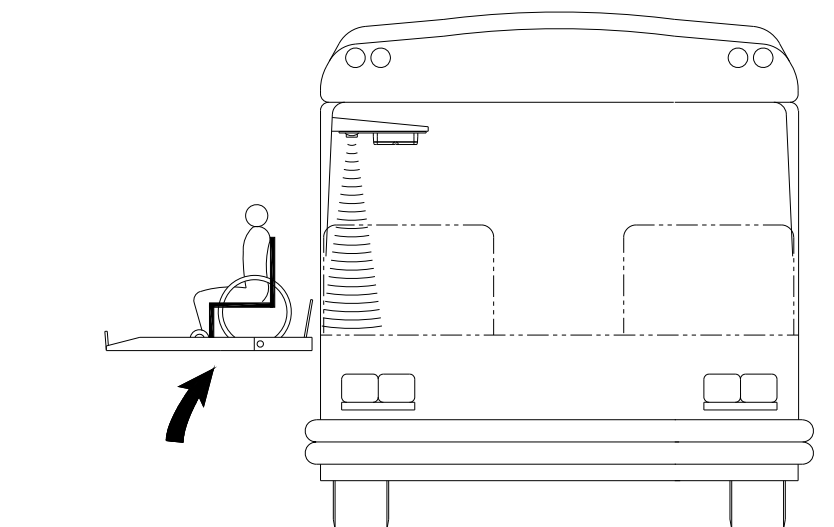

FIGURE 6: CHECKING NORMAL PLATFORM POSITION
2. Refer to **FIGURE 6**. Open vehicle door above lift. Lower platform to ground and place wheelchair and passenger at rear of platform. Bridgeplate (rear barrier) should be up. Raise platform to floor level. This normal platform motion with wheelchair and passenger aboard should not actuate TWS. If LED does flash (buzzer will also sound and large red light will flash), turn sensor adjustment screw slightly counterclockwise.